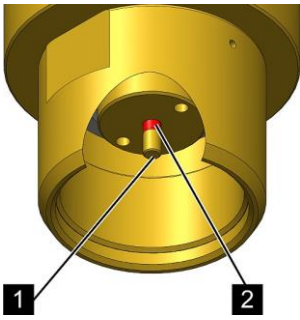

Fig. 90: Release pin
During test releases, do not reach into the area around the release pin (Fig. 90/1).
8. ➤ Check whether the red marking (Fig. 90/2) is visible on the release pin (Fig. 90/1).